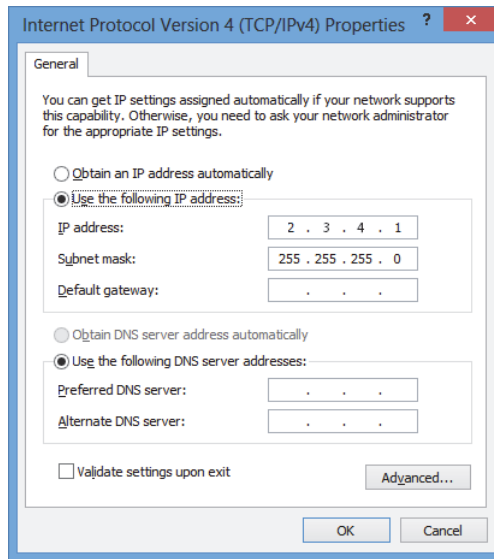
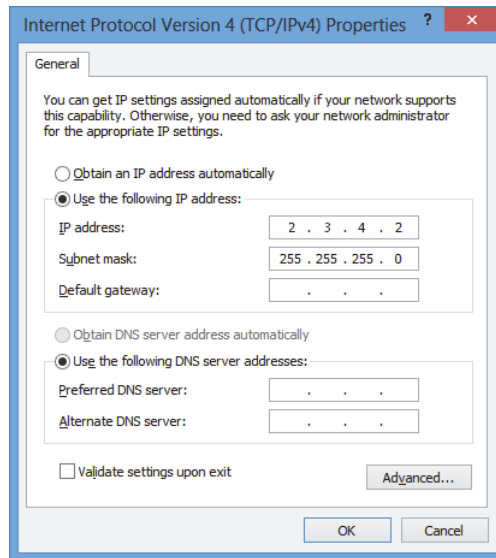

Figure 3-18 Configuring the internet protocol on the local computer
Figure 3-19 Configuring the internet protocol on the remote computer
- b) In the **Internet Protocol Properties** dialog box, click **Use the following IP address**, type compatible IP address values in the **IP address** and **Subnet Mask** boxes, and then click **OK** (see Figure 3-18 on page 63).
On the remote computer, set the IP address to a value that is in the same range as the local computer (the same first three blocks) but not identical to the IP address of the local computer. For example, **2.3.4.1** for the local (see Figure 3-18 on page 63) and **2.3.4.2** for the remote (see Figure 3-19 on page 64).